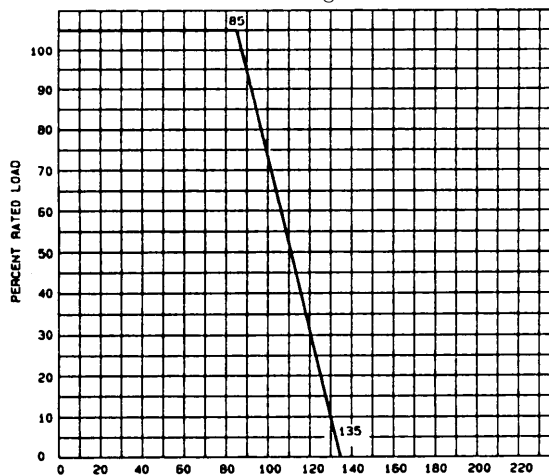

FIGURE 205-1. Derating curve for high ambient temperature.
2.1.3 Derating at high temperature. These resistors may be used at the full nominal wattage at an ambient temperature of +85°C. When a resistor is to be used where the surrounding temperature is higher than +85°C, a correction factor must be applied to the wattage rating so as not to overload the resistor. This correction factor may be taken from the derating curve shown on figure 205-1.